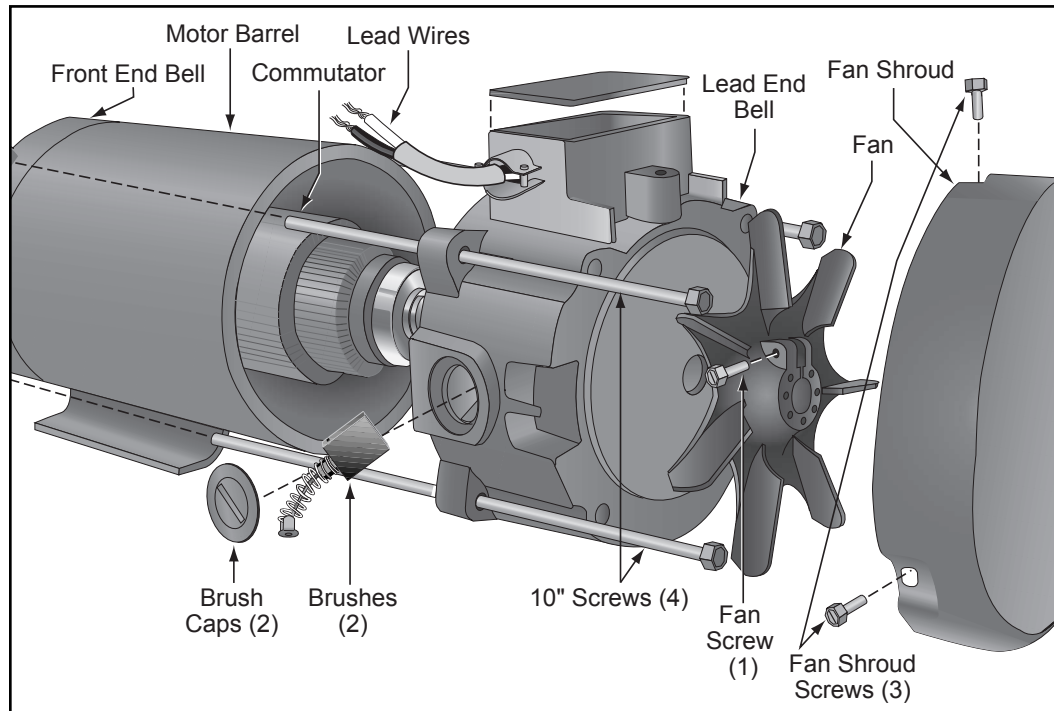

Figure 11
- C. Remove the fan shroud and the three screws that hold it in place. See Figure 11.
- D. Remove the fan and the screw that holds it in place. See Figure 11.
- E. Remove the lead end bell and the four 10" (25.4 cm) screws that hold it in place. See Figure 11.
- F. Remove the motor brush caps with a large flat screwdriver. See Figure 11. See *Motor Brushes* in this chapter for instructions to check motor brush wear and then return to step 7.
- A.** Attach the lead end bell with the four 10" (25.4 cm) screws that hold it in place. See Figure 11.
- B.** Attach the fan with the screw that holds it in place. See Figure 11.
- C.** Attach the fan shroud and the three screws that hold it in place. See Figure 11.
E. Place each brush in its brush holder and carefully push the spring in while screwing on the brush cap. Secure the brush caps over the brushes using a large flat screwdriver. See Figure 11.